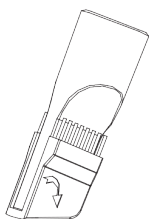

Fig. 11
1. As in fig.11, you can use the compressed brush in the corner and the aperture.